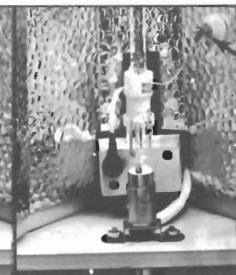

Figure 11
3. Remove the small outer nut on the trigger post and attach the lug from the end of the trigger wire. See Figure 11.